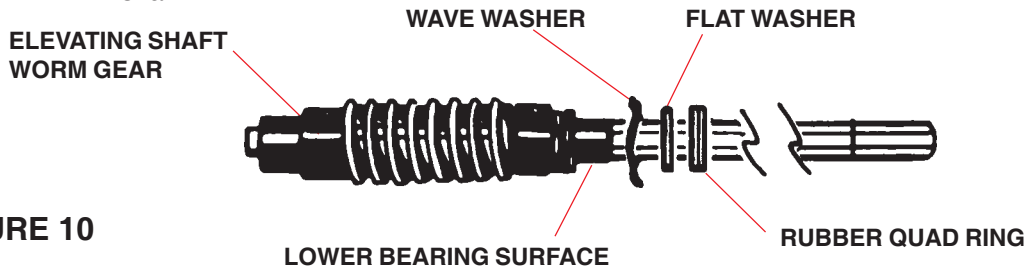

FIGURE 10
Lubricate rubber quad ring on elevating shaft which is below worm gear with silicone spray lubricant at least **twice yearly** (Figure 10). This will keep quad ring from becoming brittle which could result in leaks down elevating shaft.
STEP 4. Lubricate worm gear assembly on new elevating shaft assembly with spray silicone lubricant. **Make sure wave washer, flat washer and quad ring are on lower bearing** (Figure 10) and insert assembly in housing.